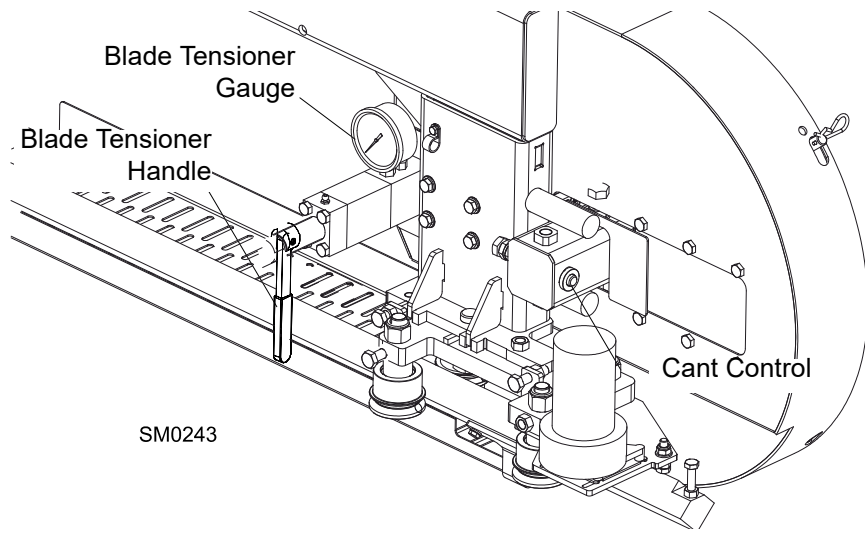

FIG. 2-18
See **Figure 2-18**. Tension the blade by turning the hydraulic tensioning handle clockwise until the tension gauge indicates the recommended tension.
5. Use the cant adjustment bolt, shown in **Figure 2-18**, to adjust where the blade travels on the blade wheels.